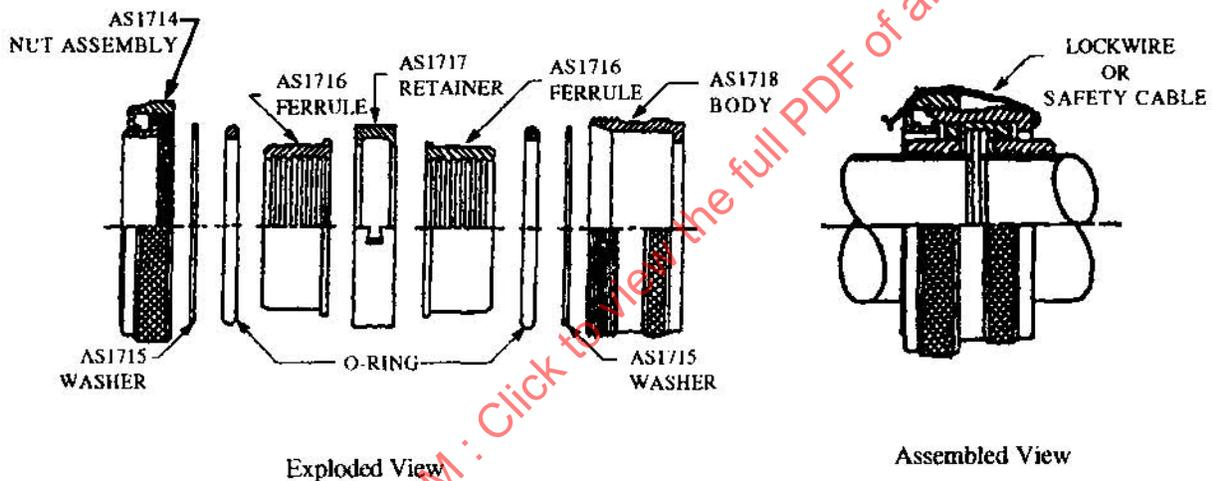

FIGURE 4 - Assembly of Flexible Type Full Coupling
3.5.3 Full Coupling - Flexible (AS1712): The AS1712 type flexible full coupling is illustrated in Figure 4.
- f. Install O-ring seals per Figure 4.